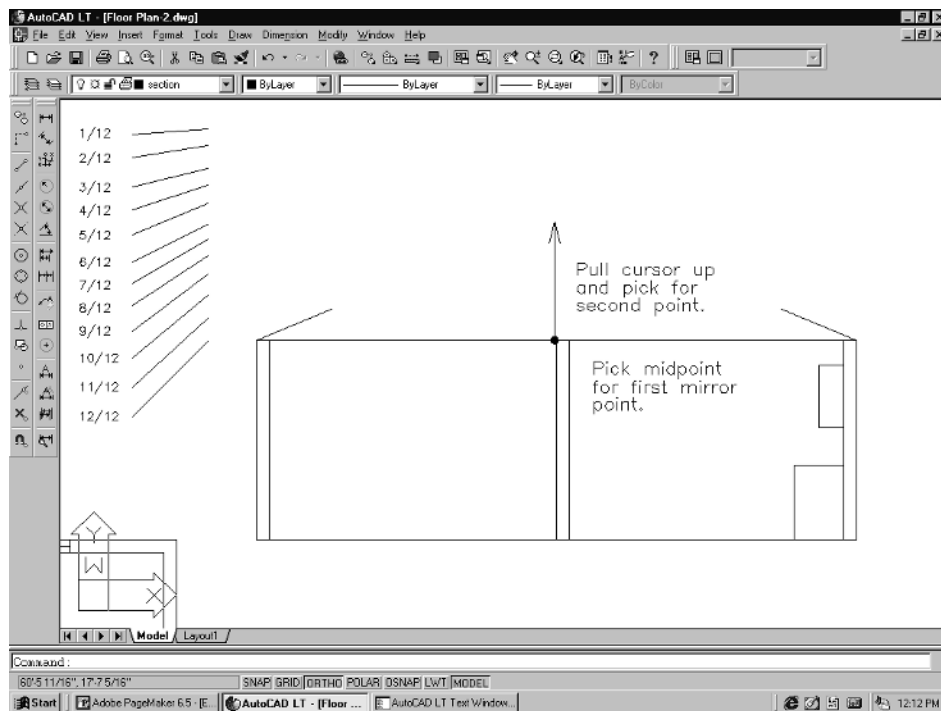

Figure 3-40
4. Next, pick the **Mirror** command from the Modify pull-down menu. When prompted to *Select objects*, pick the roof line that you just attached to the upper left-hand wall corner and hit **Enter**. At the *Specify first point of mirror line* prompt, pick the midpoint of the ceiling line as in Figure 3-40. Use your Osnap to do this. When the *Specify second point of mirror line* prompt appears, pull your cursor up and pick. The roof line should be mirrored over to the right wall corner now. Make sure Ortho is on when you do the last function.